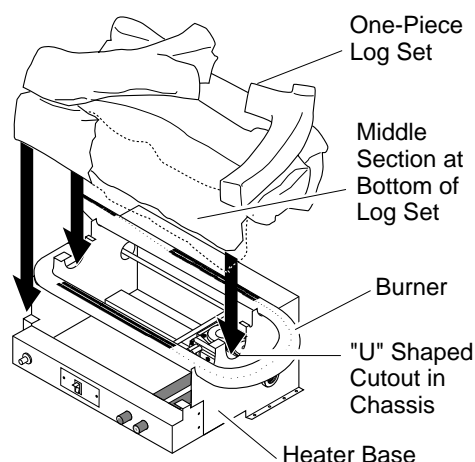
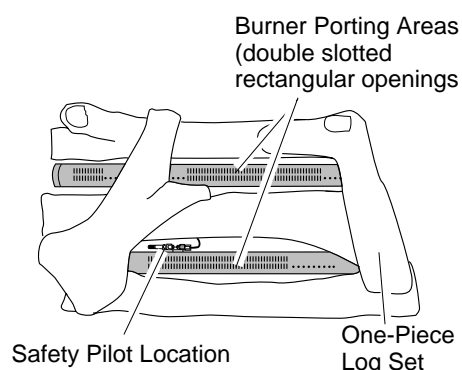

Figure 17 - Installing One-Piece Stove Log Set (Remote-Ready Log Heater Shown)
Figure 18 - Top View of One-Piece Log Set on Gas Log Heater
8. Set one-piece log on heater base as shown in Figure 17. Make sure middle section at bottom of log is seated into "U" shaped cutout in center of heater base. Log will fit securely on base. **IMPORTANT:** Make sure log does not cover any burner ports and does not touch the stove cavity (see Figure 18).
9. Fasten back panel to stove with six (6) M6 x 1.20mm bolts and washers. Make sure product identification label is located on the outside lower left-hand corner.